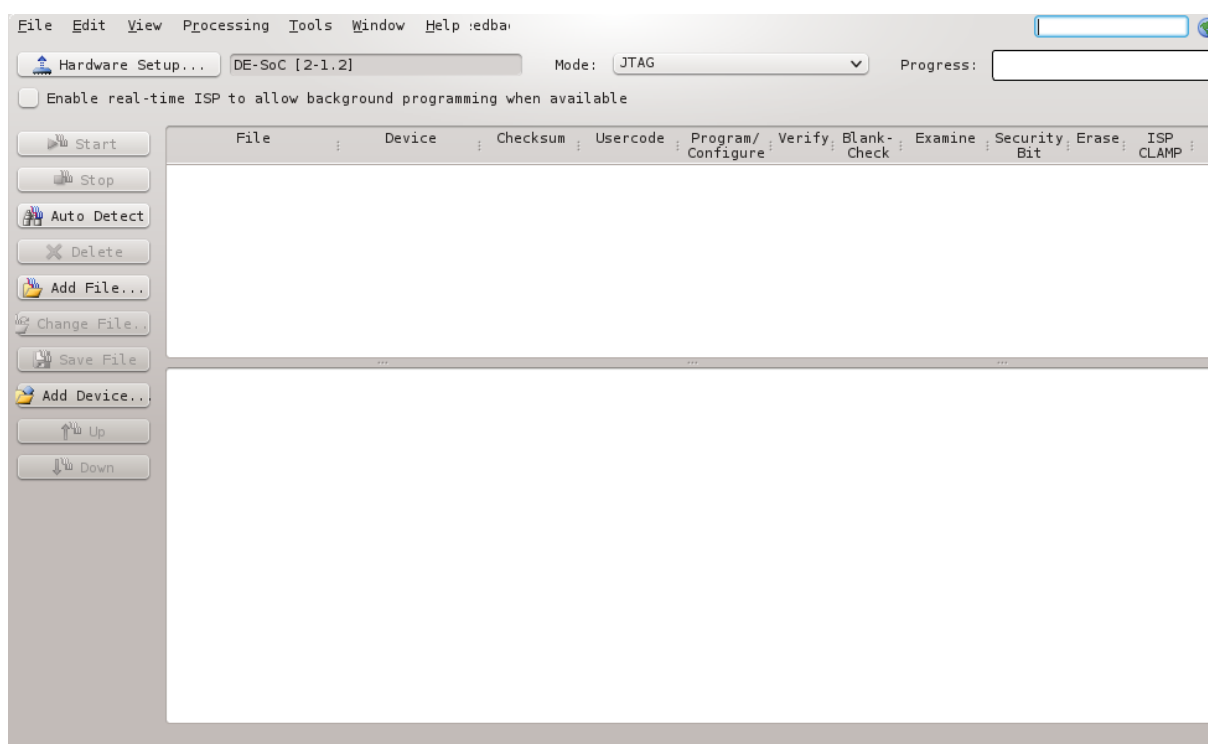

Figure 8-15. Quartus II Programmer
38. Choose the “Auto Detect” button on the left of Figure 8-15, then choose “5CSEMA5”, as shown in Figure 8-16.